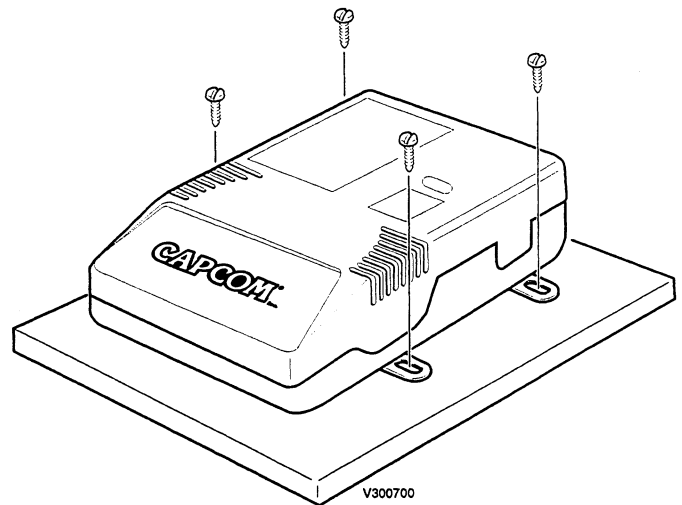

Figure 11: Case Mounting
23. Using the supplied wood screws, fasten the game cartridge case to the control panel shelf, as shown in Figure 11.